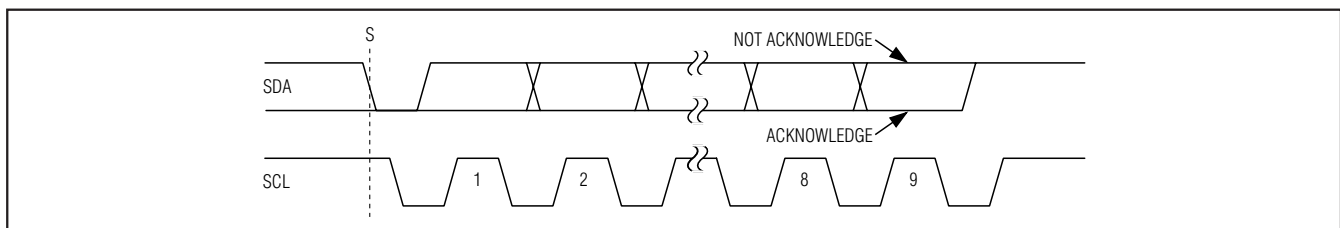

Figure 8. Acknowledge Bits
Successful data transfers are acknowledged with an acknowledge bit (A) or a not-acknowledged bit ( $\bar{A}$ ). Both the master and the MAX1069 (slave) generate acknowledge bits. To generate an acknowledge, the receiving device must pull SDA low before the rising edge of the acknowledge-related clock pulse (ninth pulse) and keep it low during the high period of the clock pulse (Figure 8). To generate a not acknowledge, the receiver allows SDA to be pulled high before the rising edge of the acknowledge-related clock pulse and leaves it high during the high period of the clock pulse.